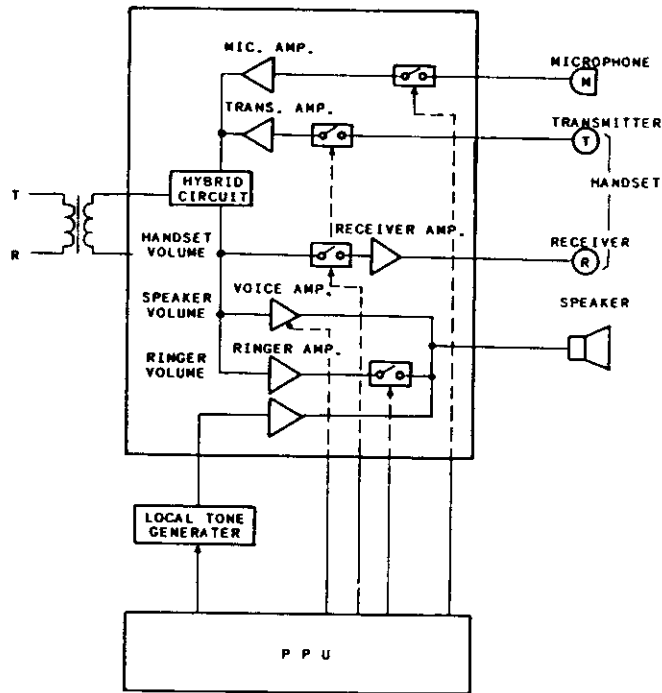

FIGURE 6-33 STATION SPEECH PATH
Circuit Operation: Station Speech path is shown in Figure 6-33.
1. Key telephones have various voice input/output devices and their connection to the Tip/Ring pair is controlled through Speech Network LSI under command of the Station PPU as shown in Figure 6-33.